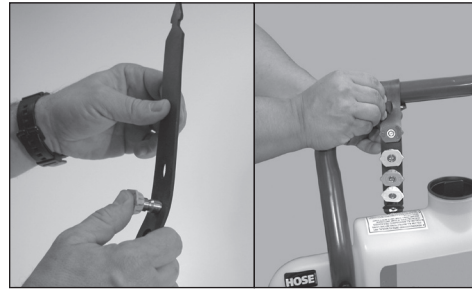

Figure 8 – Insert spray tips into the rubber tip holder
7. Install quick connect tips to tip holder and secure to the pressure washer handle. See Figure 8.